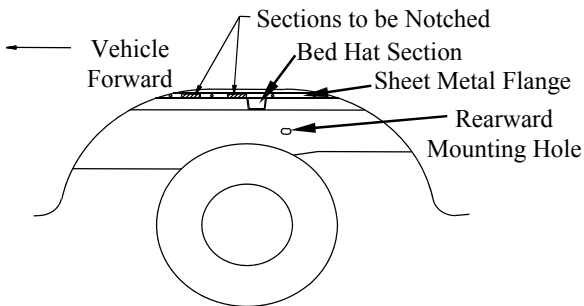
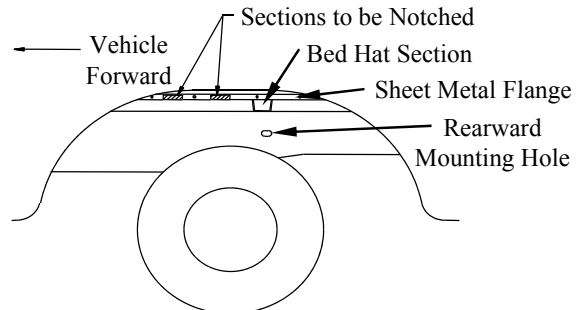

Figure 5a
Figure 5b
- 5b. **Placing Cross Members Between Bed And Frame, Method 2: Notch the Side Flange:** From the driver's side wheel well, notch the sheet metal flange as shown in Figure 5a for 6' beds and Figure 5b for 8' beds. After notching, the cut steel surfaces should be touched up with paint to prevent rusting.